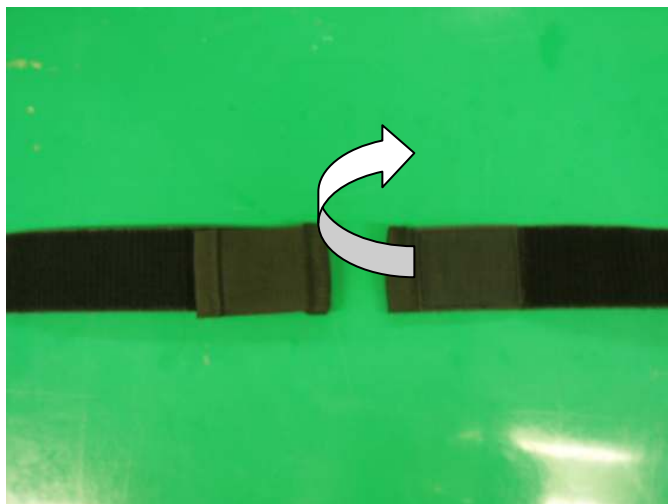

Figure 4.12
2. Put the end of the long belt through the belt coupler of the short belt like figure 4.12.